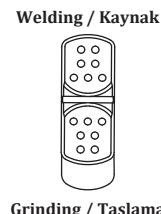

Figure 5
- When you move the **Figure 5** button to the grinding position, you will get a tarnish-free image. This function will protect your face against splashes.
- You can re-adjust using the **Figure 5** buttons to during welding.